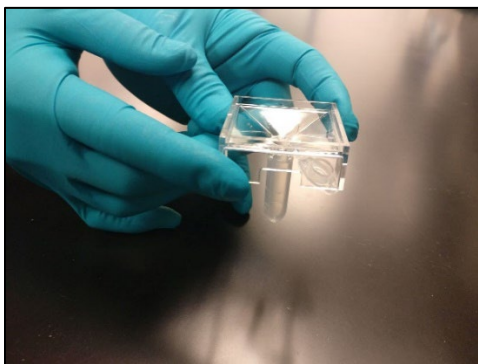

Figure 73. Assembling the collection module.
2. Open the Single-Cell Collection Kit and label the Collection Tube with the engraved chip number. Assemble the collection module by attaching the Collection Tube to the Collection Fixture, as shown in Figure 73.